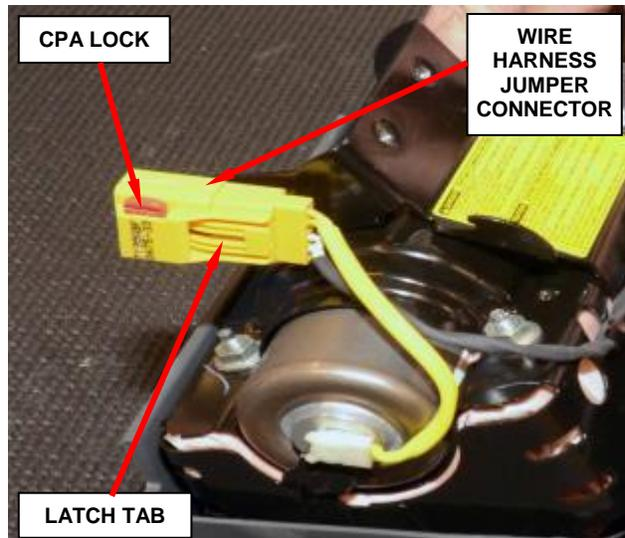

Figure 43 – Wire Harness Jumper
- a. Slide the red Connector Position Assurance (CPA) lock on the connector toward the side of the connector (Figure 43).
11. Connect the instrument panel wire harness connector for the airbag to the passenger airbag inflator pigtail wire connector on the right side of the airbag mounting bracket. Be certain that the latch on the connector and the red Connector Position Assurance (CPA) lock are each fully engaged (Figure 43).